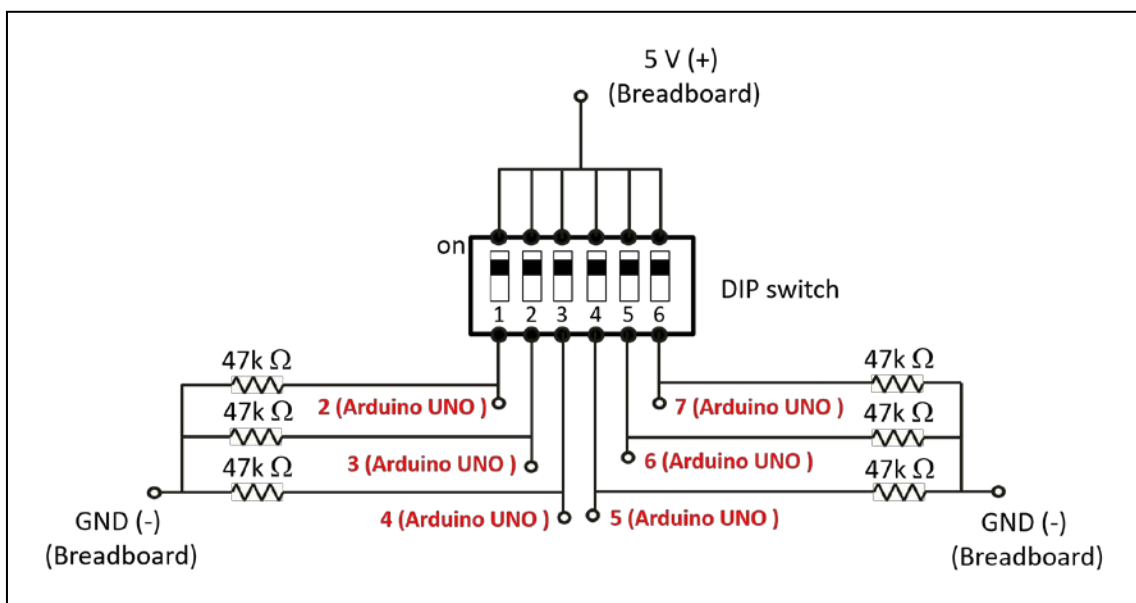
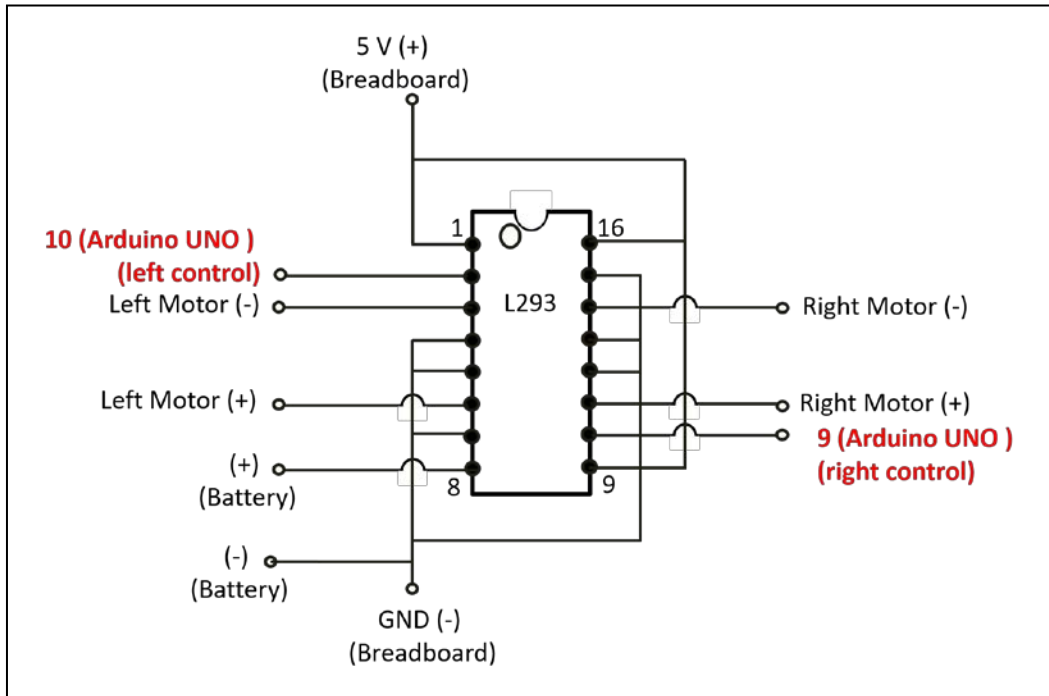

Fig. 39
Fig. 40
5.6.10. Connect the DIP switch circuits to Arduino UNO board, as shown in Fig. 39. Connect the motor control circuit to Arduino UNO board, as shown in Fig. 40. You could refer to the video (video18-DIP_motor_control.mp4) for demonstration.